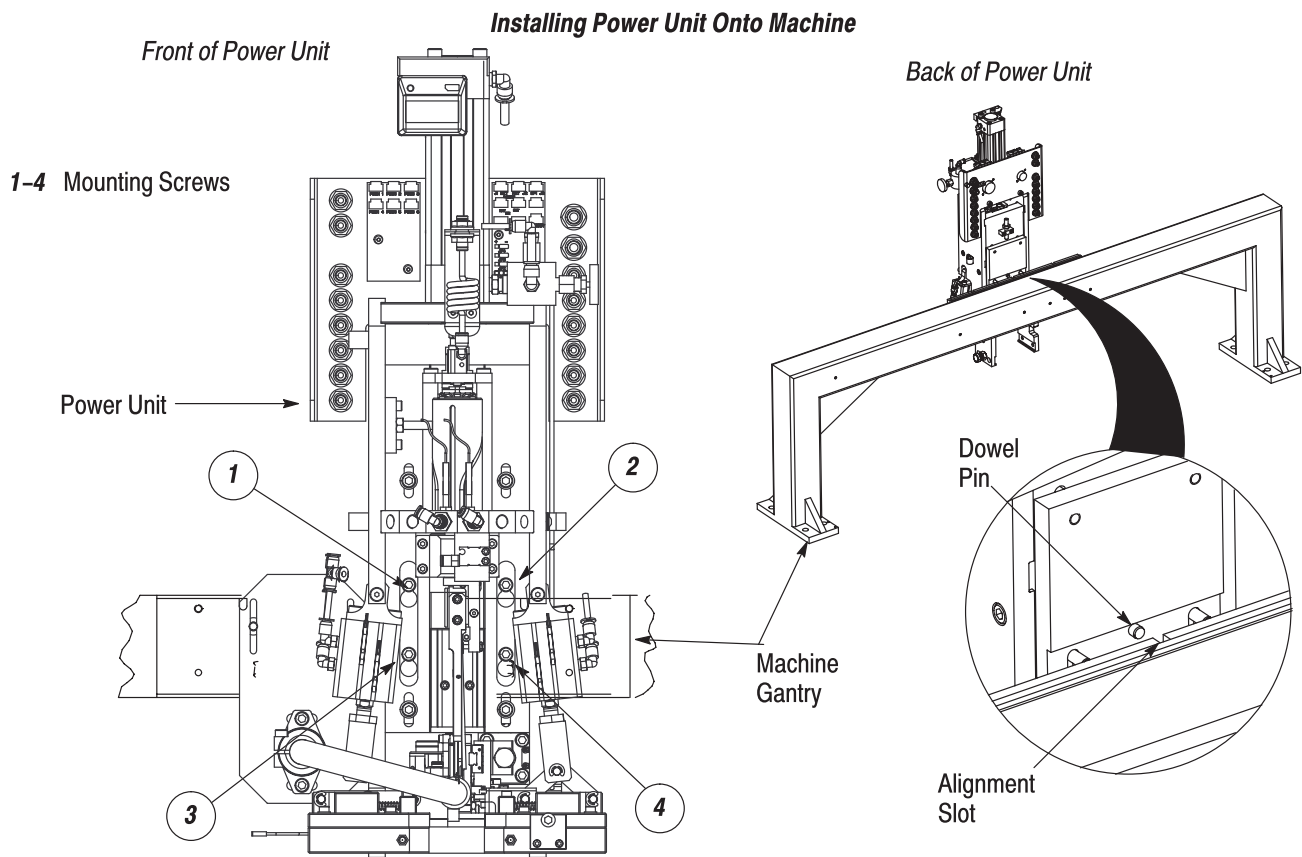

Figure 4
2. Position the mounting holes of the power unit over the four mounting screws of the machine gantry. Refer to Figure 4.